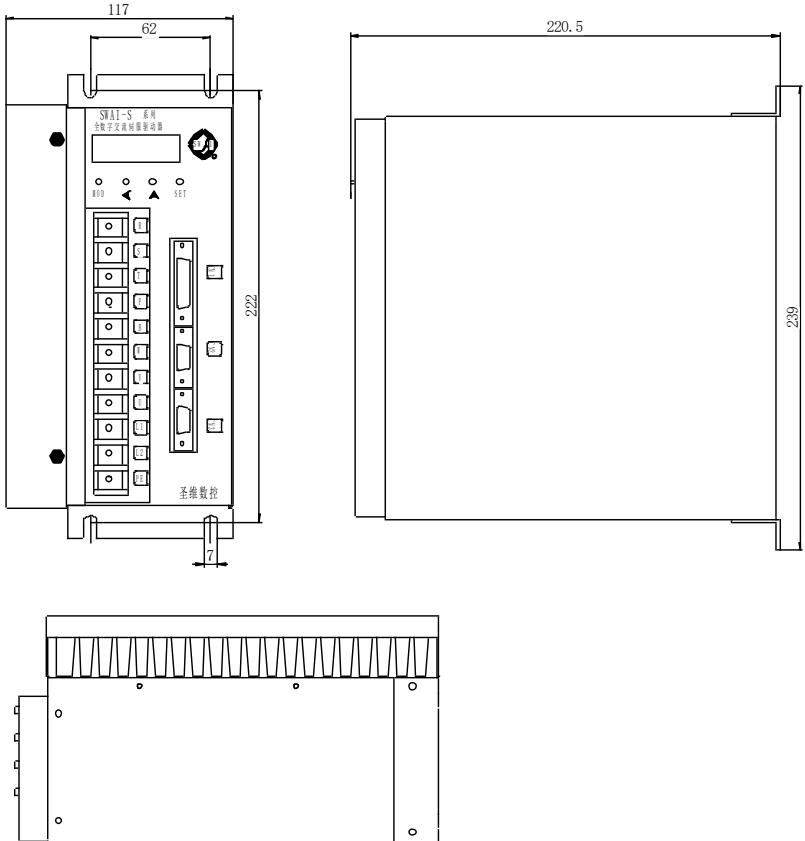

图 1-3 EPS1—500 servo motor driver dimensions ( Unit: mm)
- EPS1—500 servo motor driver dimension is shown in Fig.1-3.